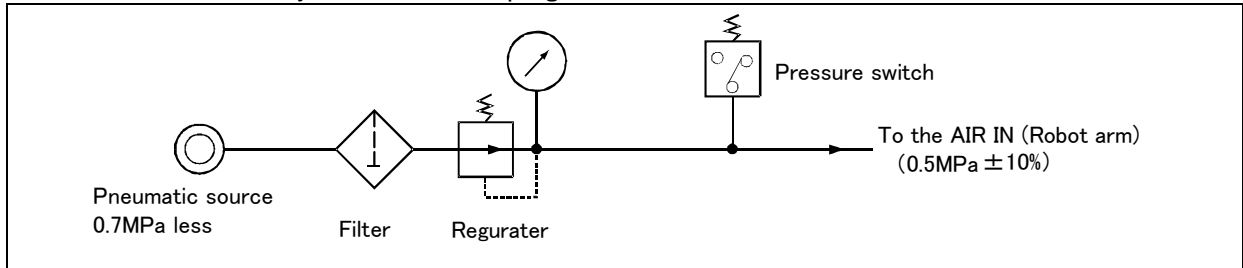

Fig.2-12 : Air supply circuit example for the hand
Fig. 2-12 shows an example of pneumatic supply circuitry for the hand.
- (1) Place diodes parallel to the solenoid coil.
- (2) When the factory pneumatic pressure drops, as a result of the hand clamp strength weakening, there can be damage to the work. To prevent it, install a pressure switch to the source of the air as shown in Fig. 2-12 and use the circuit described so that the robot stops when pressure drops. Use a hand with a spring-pressure clamp, or a mechanical lock-type hand, that can be used in cases where the pressure switch becomes damaged.
- (3) The optional hand and solenoid valve are of an oilless type. If they are used, don't use any lubricator.
- (4) If the air supply temperature (primary piping) used for the tool etc. is lower than ambient air temperature, the dew condensation may occur on the coupling or the hose surface.